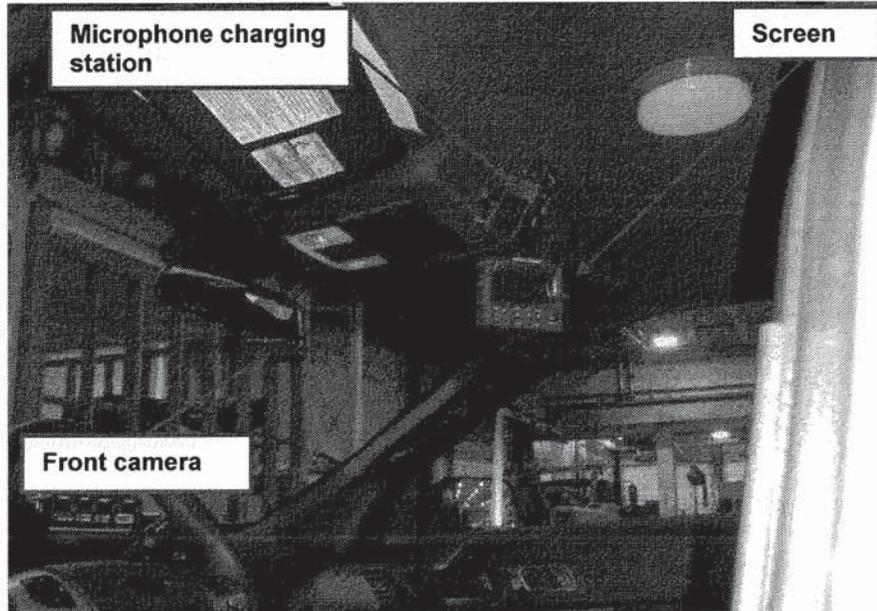

Figure 20 –MVRS modular system (front camera, microphone charging station and screen)
32. The MVRS *shall* be installed in Ford Police Interceptor Utility marked MP vehicle. Directions and specifications on MVRS can be founded in CF MP Gp Order 2-820 in Appendix 4 to Annex A . *Figures 20, 21 and 22* contain illustrated examples of the installation of MVRS.